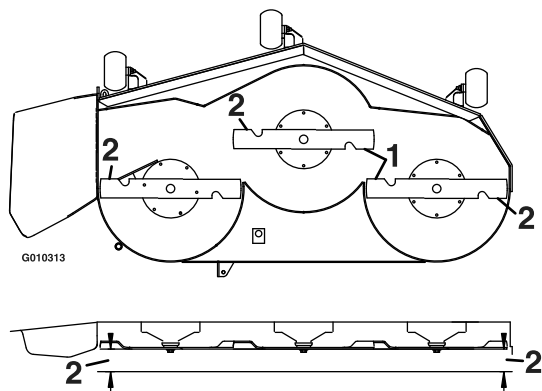

Figure 30
6. Measure between the outside cutting edges and the flat surface (Figure 30). If both measurements are not within 3/16 inch (5 mm), an adjustment is required; continue with this procedure.
11. Carefully rotate the blades side to side (Figure 30).